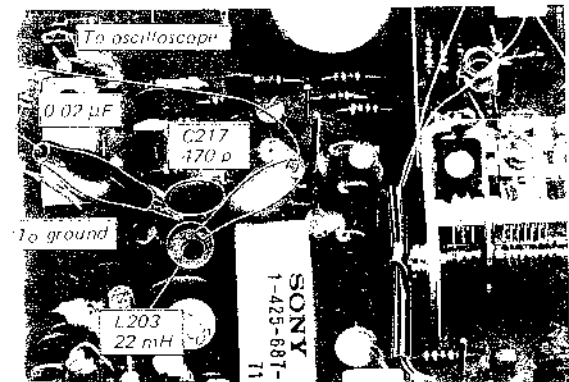

Fig. 3-3. Fm discriminator output connection
- Connect the input cable of the oscilloscope with alligator clips to C217 and ground on the fm (a-m) front end/i-f amp/MPX board, and solder a 0.02 μF capacitor across these clips, as shown in Fig. 3-3.